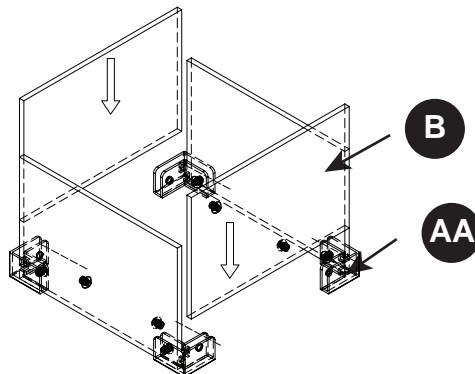

Figure 4
5. Insert 2 pcs glass (B) into the groove of the clip (AA), make sure the arrow labels on the short glass are in an upward direction, tighten the bolts using Hex screwdriver (BB) (see Figure 4).